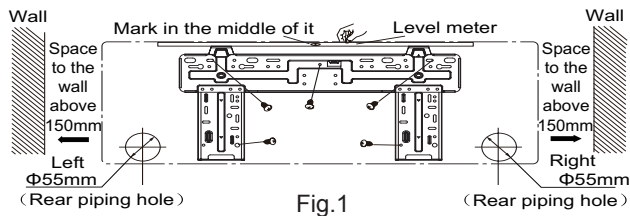

Fig.1
(1) Choose the position of piping hole according to the direction of outlet pipe. The position of piping hole should be a little lower than the wall-mounted frame.(As show in Fig.1)